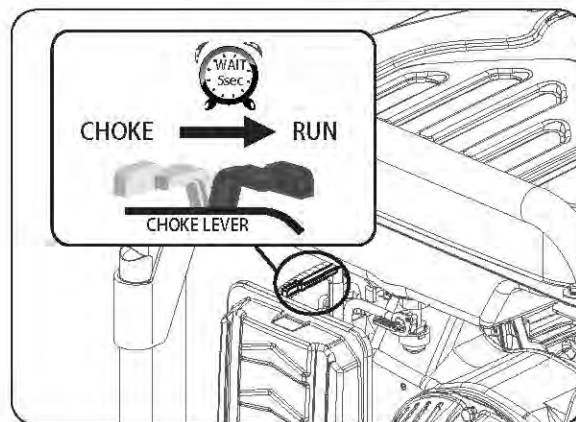

Fig 14
- Let engine run for several seconds and then gradually, as engine warms up, slide the choke lever towards the "RUN" position until the choke is fully slid to the "RUN" position. (See fig 14)